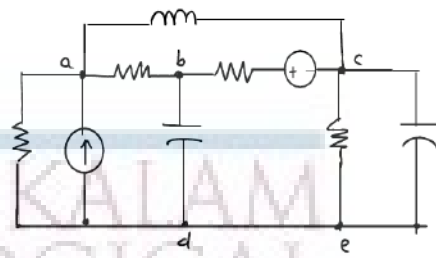

Figure 2: Figure for question 11 (a).
11. (a) Draw the oriented graph of the given network shown in Fig. 2, and identify one tree and its co-tree. Obtain the incidence matrix. (6)